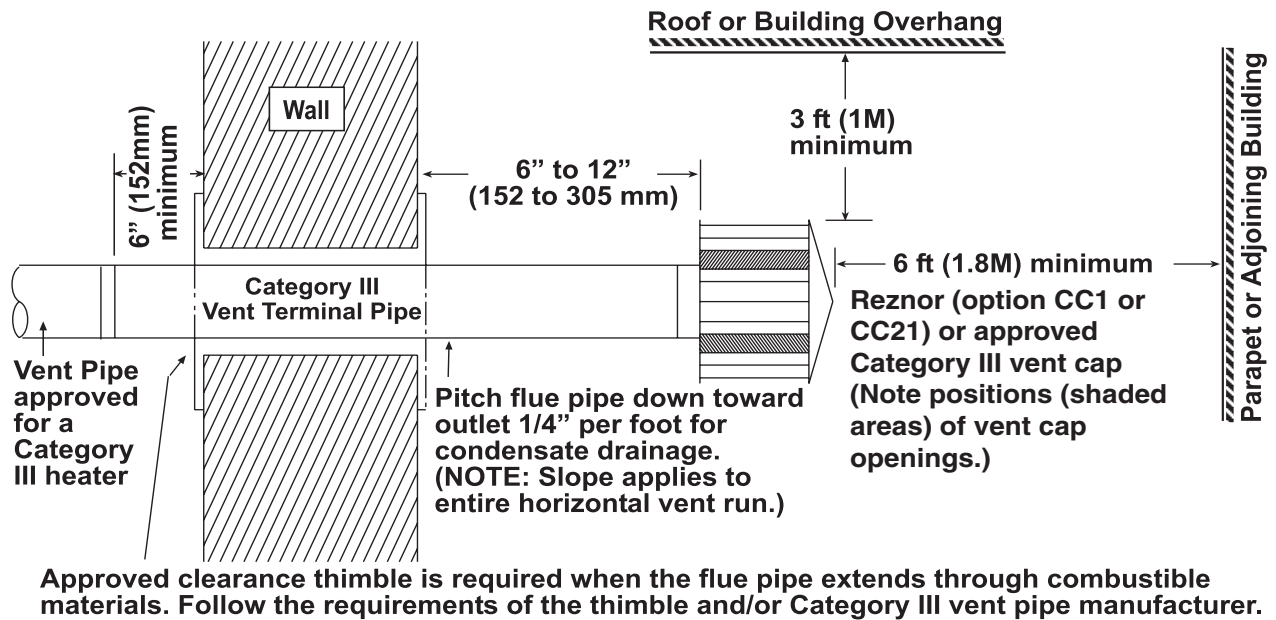

Figure 13. Horizontal Vent Terminal (Residential Installations)
- b. Refer to instructions shown in Figure 13 and to Table 11 to install horizontal vent terminal.